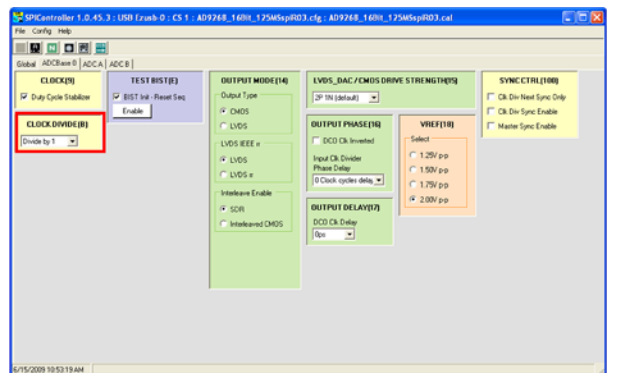
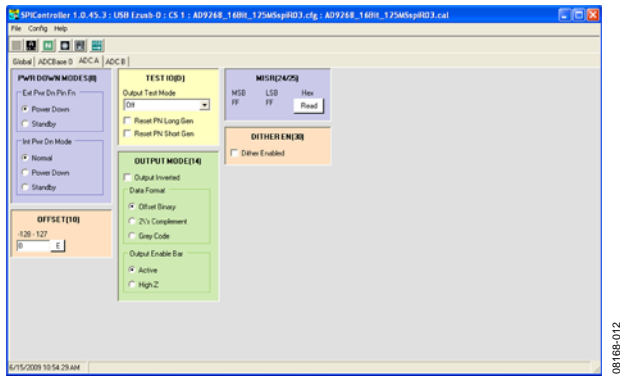

Figure 12. SPI Controller, CLOCK DIVIDE(B) Box
Figure 13. SPI Controller, Example ADC A Page
3. In the **ADCBASE 0** tab of the **SPIController** window, find the **CLOCK DIVIDE(B)** box (see Figure 12). If using the clock divider, use the drop-down box to select the correct clock divide ratio, if necessary. See the appropriate part data sheet; the **AN-878** Application Note, *High Speed ADC SPI Control Software*; and the **AN-877** Application Note, *Interfacing to High Speed ADCs via SPI*, for additional information.
- Note that other settings can be changed on the **ADCBASE 0** page (see Figure 12) and the **ADC A** and **ADC B** pages (see Figure 13) to set up the part in the desired mode. The **ADCBASE 0** page settings affect the entire part, whereas the settings on the **ADC A** and **ADC B** pages affect the selected channel only. See the appropriate part data sheet; the AN-878 Application Note, *High Speed ADC SPI Control Software*; and the AN-877 Application Note, *Interfacing to High Speed ADCs via SPI*, for additional information on the available settings.